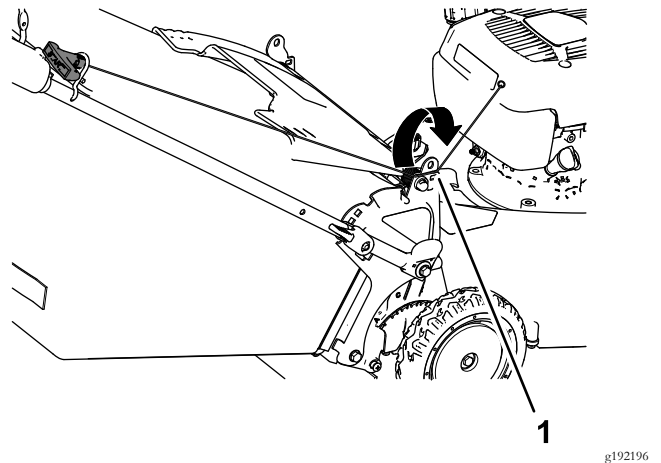

Figure 26
1. Route the starter rope around the lower-rope guide (Figure 26).